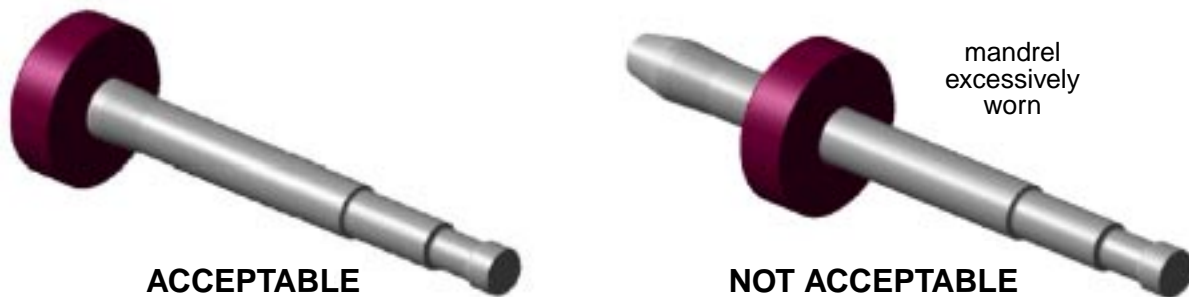

Figure 4 - Mandrel Check Fixture
- Step 5. Check the mandrel for excessive wear using a mandrel check fixture; the mandrel check fixture is a gauge consisting of a steel plate with a NO-GO hole in the center, as shown in Figure 4. If the mandrel major diameter passes through the NO-GO hole, the mandrel is worn beyond the specification limit and must be replaced.